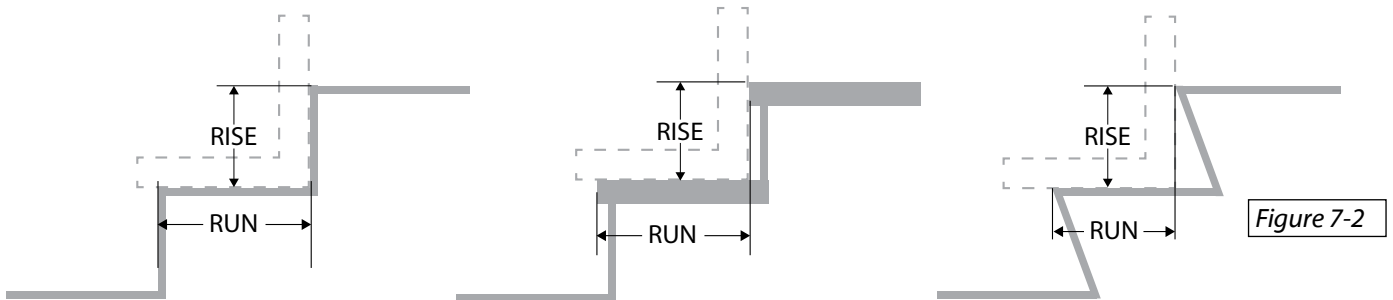

Figure 7-2
2. To figure the overall length of the rail you must know the flight angle of your stairway. Measure your rise and run as shown in Figure 7-2. Use the chart on page 8 and its key to figure the flight angle and the corresponding overrun. Enter the overrun into BOX 2 of the Rail Length Worksheet below